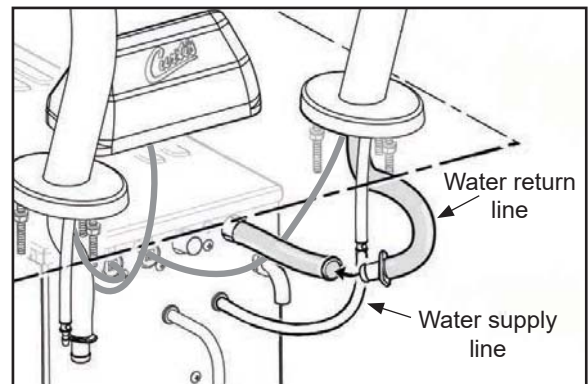

Figure 12 - Attaching the Water Hoses
- 22 Link the brew heads to the water tower by attaching the water return lines. These are the two larger diameter flexible silicone tubes that come from behind the water tower. The matching return lines from the spray head assemblies will have a straight fitting slipped into the end of the tube. Join the return line tubes together using this fitting. Make sure they are correctly oriented as shown in *Figures 12 and 13*.
- 23 Locate the two (2) 1/4 inch diameter water supply lines behind the water tower. Shorten them to minimize length when connected with the matching 1/4 inch tubing coming from the bottom of the brew head assemblies.
- 24 Insert the water supply tubes from the back of the water tower into the barbed connector on the supply line tube fittings from the brew head assemblies. See *Figure 12*.